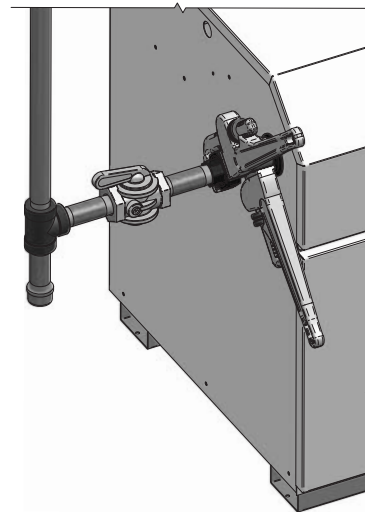

Figure 6-2_Wrench to Support Gas Valve for Piping Connection
8. Connect the gas pipe to the inlet of the unit. Use a wrench to support the gas manifold on the unit (FIG. 6-2).